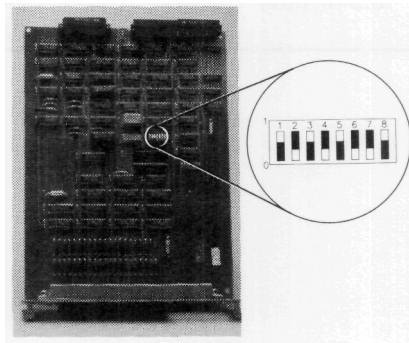

Figure 5-56.
- a. The default settings for the address switches are shown in Figure 5-56.